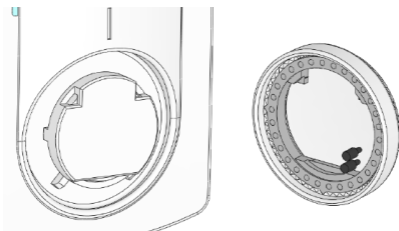

Fig 3
3. Remove the dial pins and put in the desired holes to limit the setting range of the thermostat. (Figure 3 et 4)